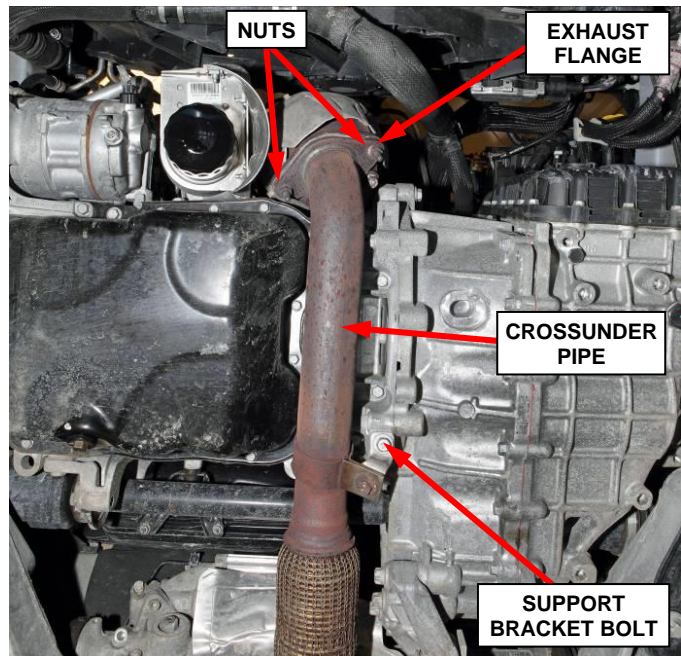

Figure 2 – Crossunder Pipe
- Remove and **SAVE** the bolt securing the exhaust crossunder pipe support bracket to the transmission (Figure 2).
- Remove the and **DISCARD** the two nuts securing the exhaust flange crossunder pipe to the maniverter (Figure 2).